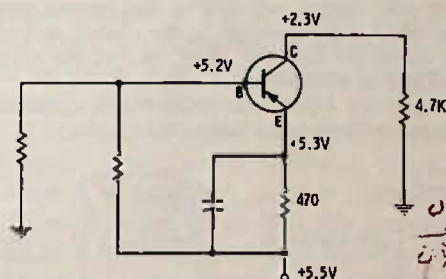

Fig. 9-23. Circuit for Questions 10, 11, 12, and 14.
10. In Fig. 9-23, the emitter current is
11. In Fig. 9-23, the amount of bias indicates that
12. In Fig. 9-23, the voltage drop across the emitter resistor is
14. In Fig. 9-23, which way would be best to measure transistor bias?